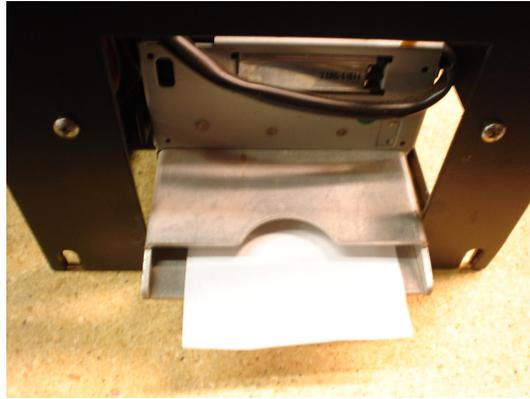

Figure P4: AC7074 Printer – Front View, Paper Fed Through
3. Wrap the paper under the "Paper Guide", and begin to feed it into the "Paper Slot". You do not need to fold or cut the paper in any way; it should be left square in the front. Continue to feed the paper into the slot, through the print head, until it passes out through the front of the machine (refer to Figure P4).